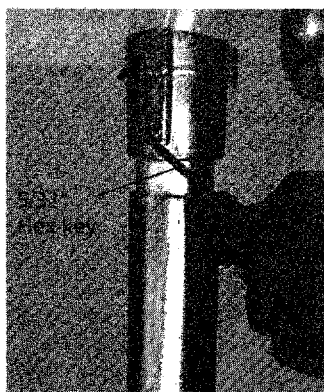

Figure 3. Tighten the setscrew.
2. Using a 5/32" hex key, tighten the setscrew in the control head hub (see Figure 3).